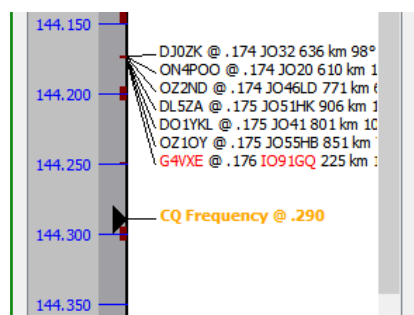

Figure 126 – Run frequency marker
- If operating in Run mode, the current Run frequency is marked on the display¹³⁵ as ‘**CQ Frequency**’, with the fractional frequency appended (see Figure 126); the marker changes colour if the rig moves off the run frequency.